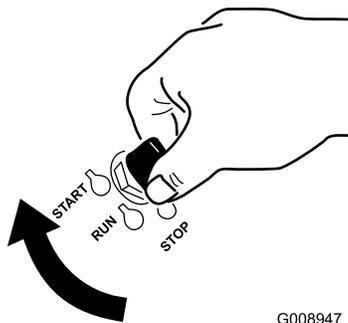

Figure 18
1. Turn the ignition key to the START position (Figure 18).
5. Turn the ignition key to the START position (Figure 18). When the engine starts, release the key.